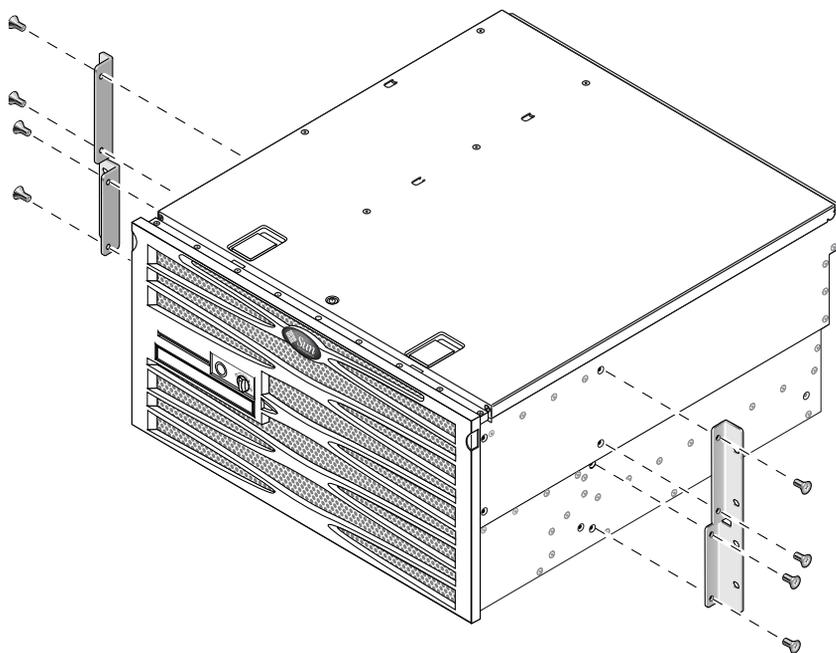

FIGURE 3-25 Securing the Side Brackets to the Side of the Server
2. Using eight of the M5 × 8 mm panhead Phillips screws (four for each side bracket), secure the side brackets to the sides of the server (FIGURE 3-25).